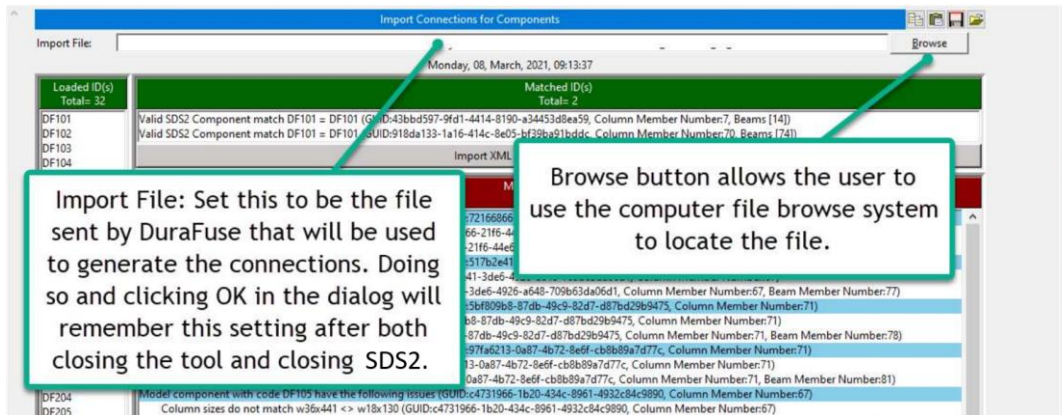

Figure 17. Locate and Import XML Data
2. After selecting the XML tool, the main dialog will pop up. **Browse** to the saved XML file as shown in Figure 17.